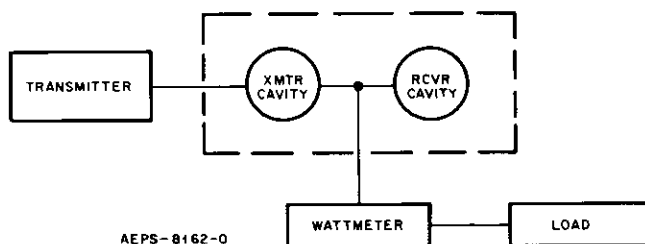

Figure 7. Method 2 Transmitter Branch Pass Test Set-Up
Step 3. Connect the equipment as shown in Figure 7.
Step 1. Using the Recommended Test Equipment given in paragraph 5.2.1, connect the equipment as shown in Figure 7.